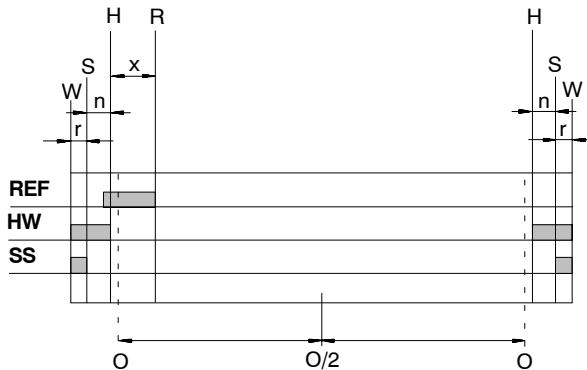

Fig. 47
- The response ranges of the safety limit switch (SS) and the hardware limit switch (HW) overlap (grey beam in Fig. 47). In this way you can avoid undefined operating states when the axis is switched on.